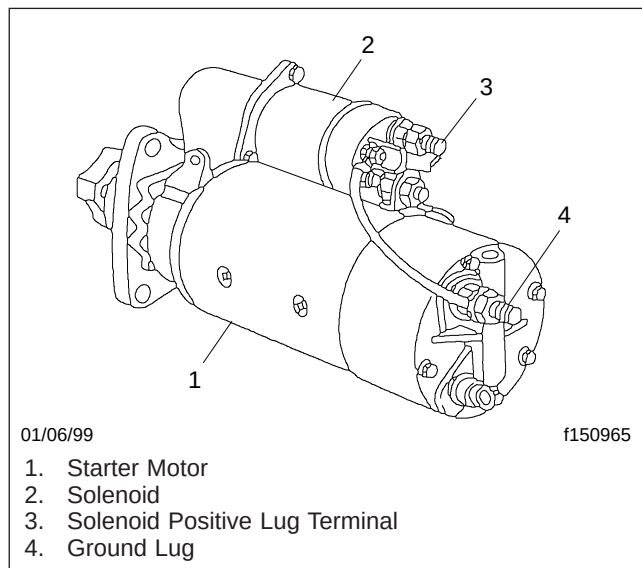

Fig. 13.1, Delco Remy 42-MT Starter
3. Connect one end of the second jumper cable to the negative terminal of the booster battery and connect the other end to the negative jump-start post or the starter ground lug. The starter ground lug (**Fig. 13.1**) is the best location. Do *not* use the frame rail or the engine block as a ground.